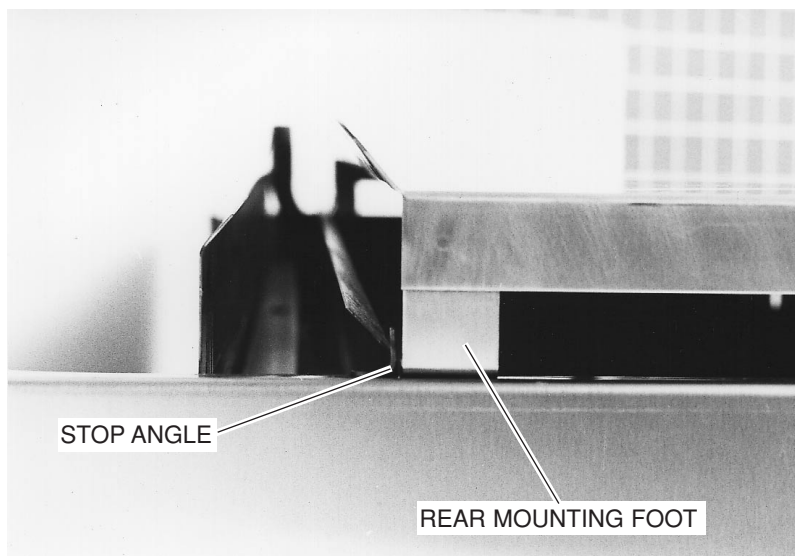

Fig. 2
1. Push top back towards wall until the rear top mounting foot hits the stop angle. (Fig. 2)